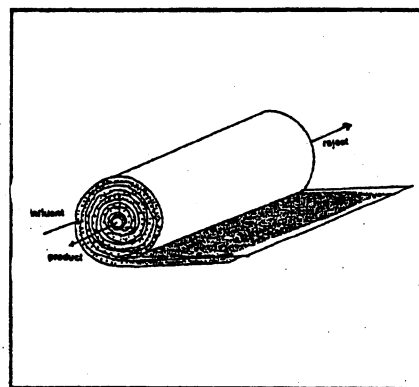

Figure 4-3: The spiral RO design.
3. The spiral or jelly roll design is built so that the contaminated water passes through to the center and the treated water (permeate or product water) flows out of the center of the filter. This configuration is typically used for cellulose membranes See Figure 4-3;